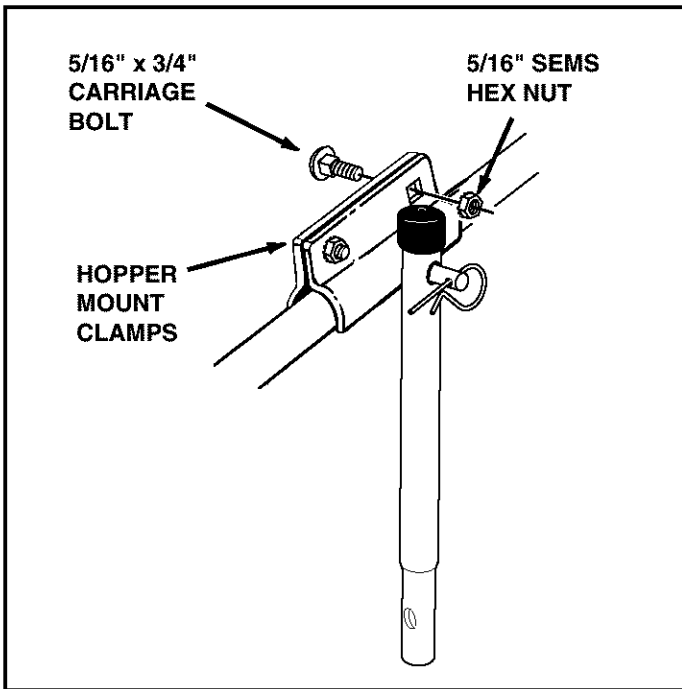

FIGURE 19
- Fasten the hopper mount clamps together using four 5/16" x 3/4" carriage bolts and 5/16" (SEMS) hex nuts. Tighten securely. See figure 19.